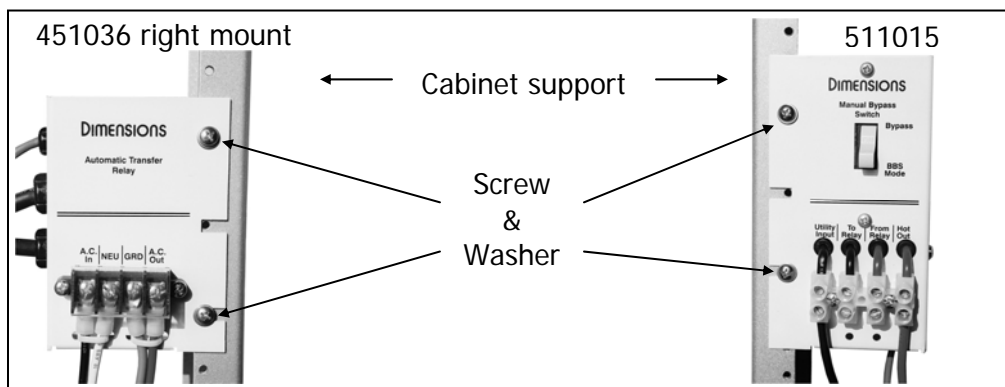

FIGURE 5: Mounting the MBPS and 30ATR
- b) Using the screws and washers provided mount the 30A transfer relay and the combined manual bypass switch as shown in Figures 5, 6 and 7.